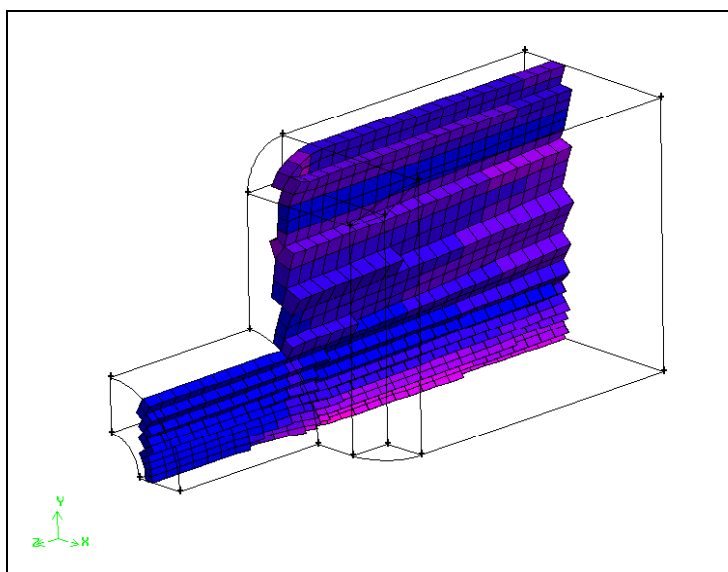

Figure 4-33: Slice of the mesh in the x direction
- Color Scale:** A horizontal bar with a gradient from blue (0) to red (1).
*An example is shown in Figure 4-33. The mesh is drawn as a wireframe (by default) as you drag the slider box, and it is colored by **EquiAngle Skew** quality when you release the slider box. As you sweep a plane through the x values, you will see the way in which the **Cooper** tool has automatically decomposed the volume internally to mesh it with hexahedral elements.*